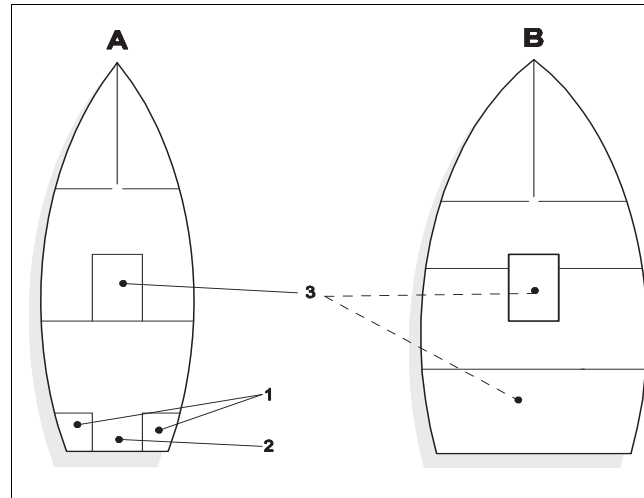

Fig. 2 *Installing heater in locker (1), rudder box (2) or engine compartment (3)*
- ▶ Recommended installation locations (see Fig. 2):